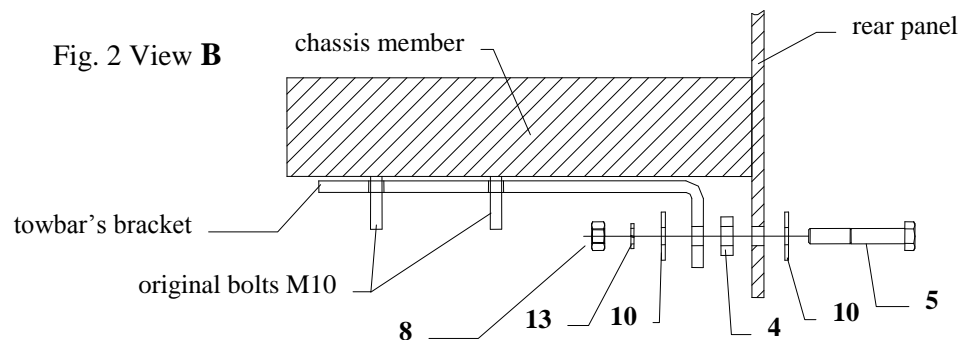

Fig. 2 View B
3. Slip main bar (pos. 1) under bumper – pull lit back, next holes pos. A put on bolts M10 protruding from chassis members and fix it using nuts M10 and big washers (pos. 9) from towbar accessories.
4. In places of original bolts M8 fix bolts M8x50mm (pos. 5) and next from inside fix it by nuts, remember about big washers (pos. 10)
5. In the event of last bolt on left side, the way of mounting show fig. 2.
7. Fix the socket plate (pos. 3) as shown on the drawing.